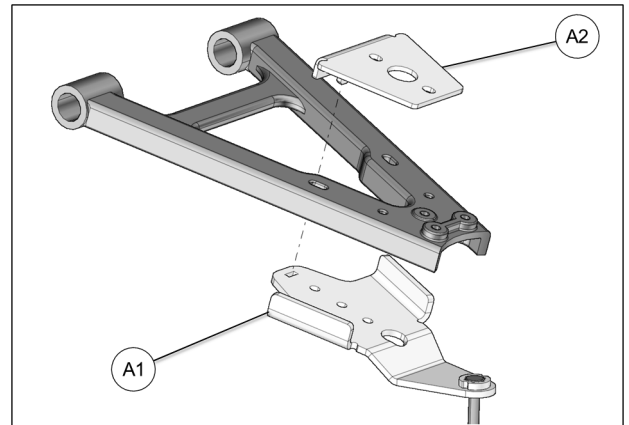

Fig. 16
5. Position bottom part of anchor bracket (A1) under lower suspension arm. Position top part (A2) over suspension arm and insert tenon in mortise cut in bottom part. Refer to Fig. 16